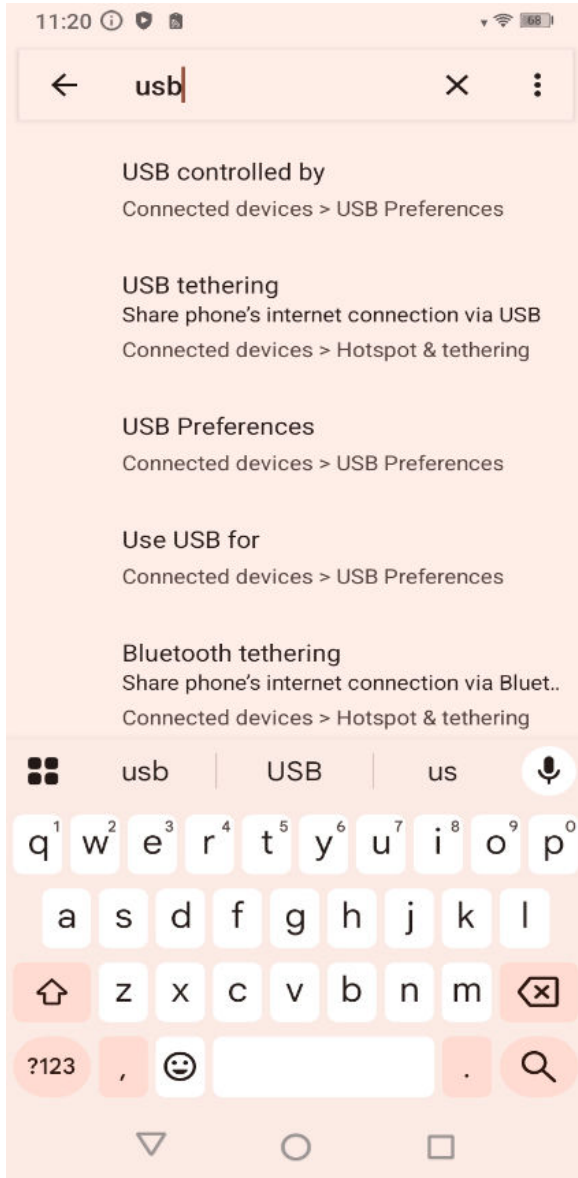
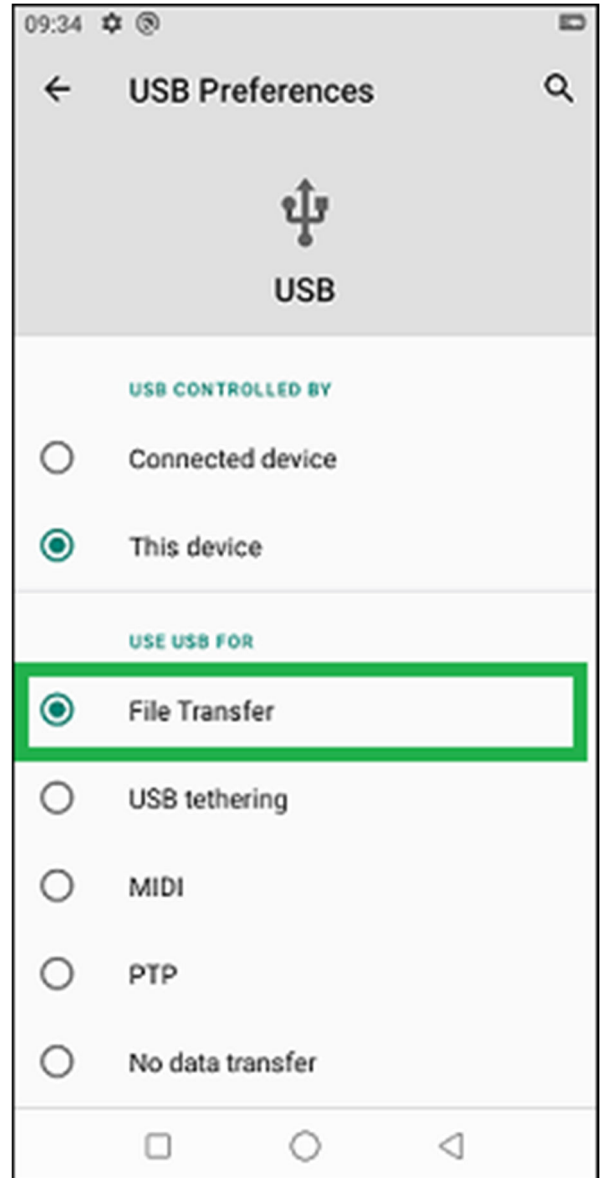

Figure 78 – USB controlled by
Figure 79 – File transfer
5. Click on the “USB controlled by” (Figure 78) and then click on the “File transfer” (Figure 79)